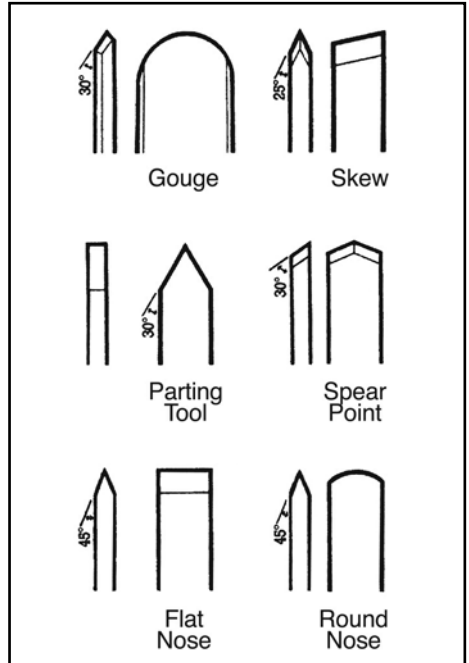

FIG. 11
10.2 USING WOODWORKING CHISELS – FIG. 11
Professional woodturning chisels have handles approximately 250mm long. This provides the operator with good grip and leverage. A sharp chisel will be much easier to work with and will give the job a cleaner finish. Fig.11 shows the six most commonly used types of turning chisel.